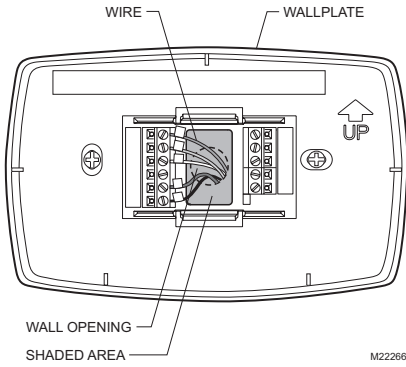

Fig. 5. Restrict wires to shaded area of wire hole.
- Push excess wire back into the wall opening and restrict wires to the shaded area. See Fig. 5.